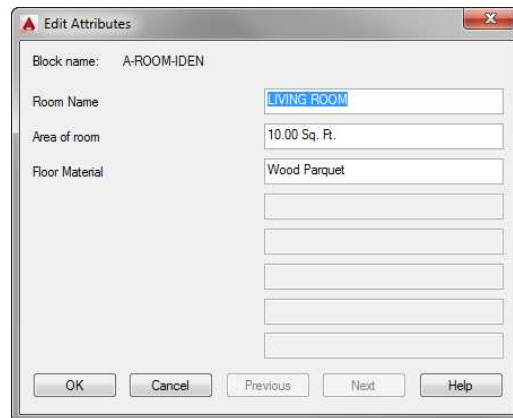

FIGURE 9.24: The Edit Attributes dialog box
5. Select the point object that marks the justification point for the LIVING ROOM label text to open the Edit Attributes dialog box (see Figure 9.24).